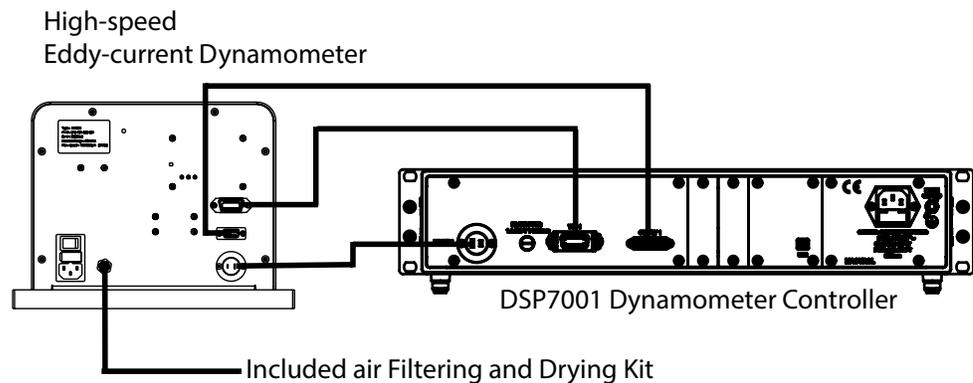

Figure 5–1 Calibration wiring
2. Connect the dynamometer to the DSP electronics as indicated on figure 5–1. Ensure correct earth grounds on equipment.
4. Screw the calibration beams in the threaded holes of the matching sleeve *figure 5–3*.